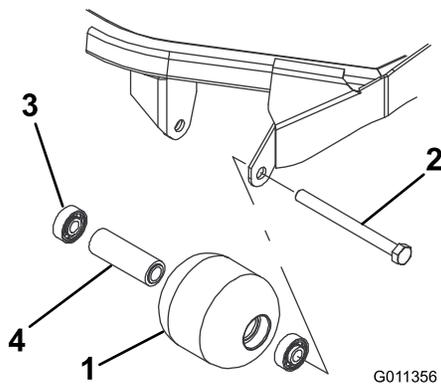

Figure 74
1. Remove the roller mounting bolt (Figure 74).
1. Press the first bearing into the roller housing (Figure 74). Press on the outer race only or equally on the inner and outer race.
2. Insert the spacer (Figure 74).
3. Press the second bearing into the roller housing (Figure 74) pressing equally on the inner and outer race until the inner race comes in contact with the spacer.
4. Inspect the roller housing, bearings, and bearing spacer for damage (Figure 74). Replace damaged components and assemble.